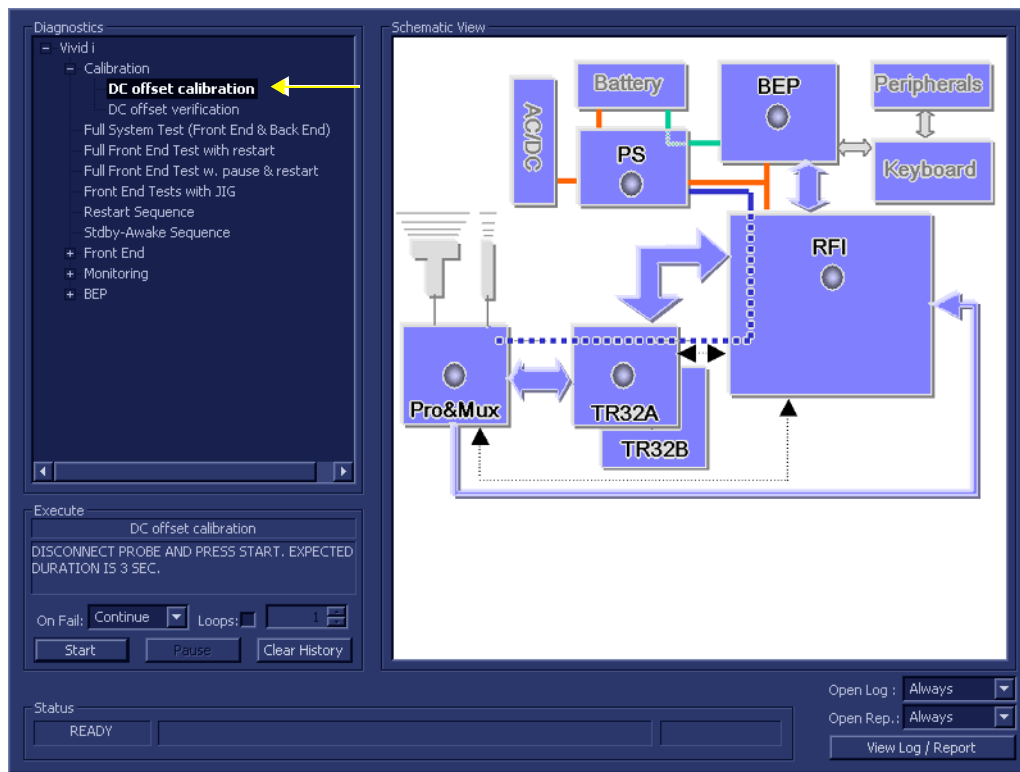

Figure 7-7 DC Offset Calibration Test
- In the *Diagnostic Test* window, trackball to **DC Offset Calibration** in the list of *Front End* tests available for selection from the Diagnostic Test Tree (see Figure 7-7 below) and press **Set**. The DC Offset Calibration name is displayed under *Execute*; the relevant system components to be tested (in this case, all components) are highlighted light blue in the Schematic View as shown below: